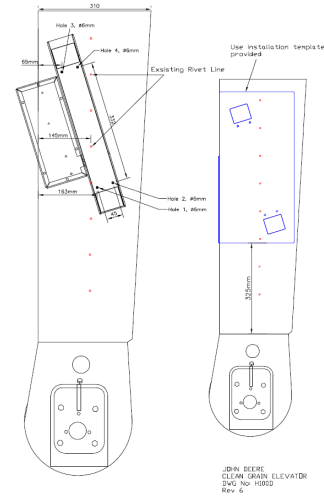

Fig. 2.1. Layout for mounting the Remote Sample Head to the Clean Grain Elevator.
- 1) Position and attach the sample head cardboard template so that the bottom horizontal line is 325mm from the bottom clean grain elevator bearing housing. Refer to the dimensions provided in figure 2.1, (see Appendix 5.3 for a full size drawing).
- 4) Drill holes 1, 2, 3 and 4 using an 8mm drill bit as shown in figure 2.1 and Appendix 5.3. This will give clearance for the square neck of the coach bolt to sit flush against the inside of the clean grain elevator.